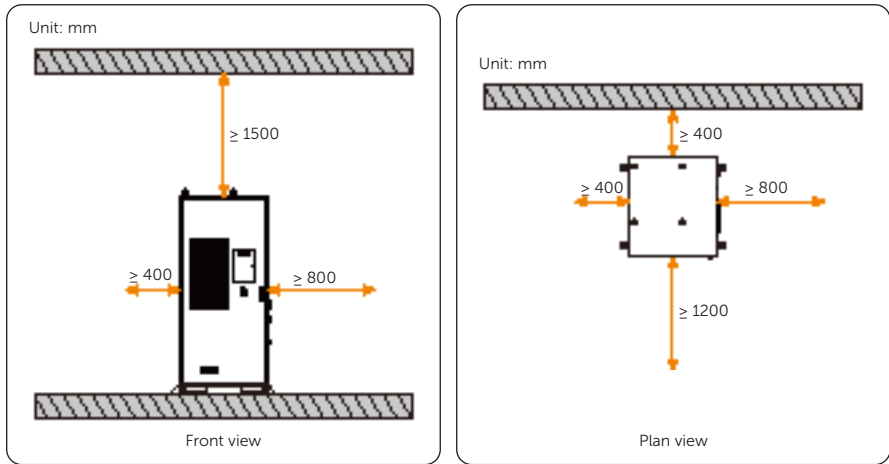

Figure 4-6 Single cabinet
- Single cabinet (see Figure 4-6)